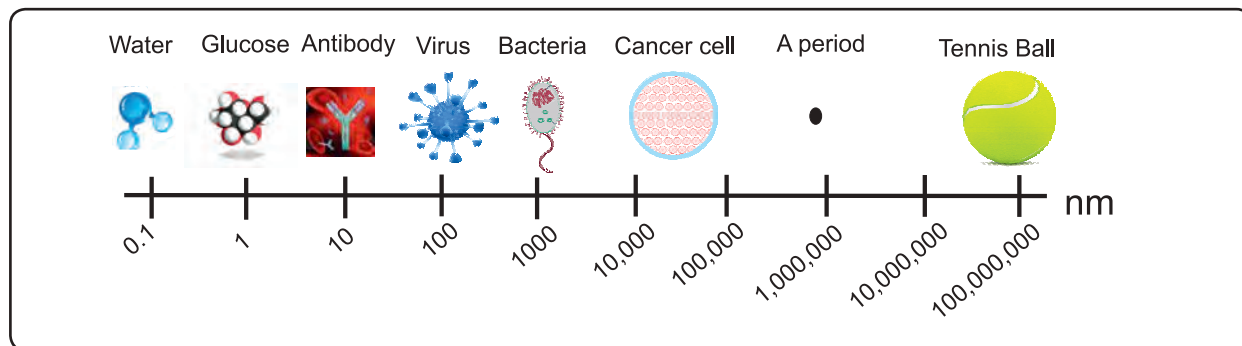
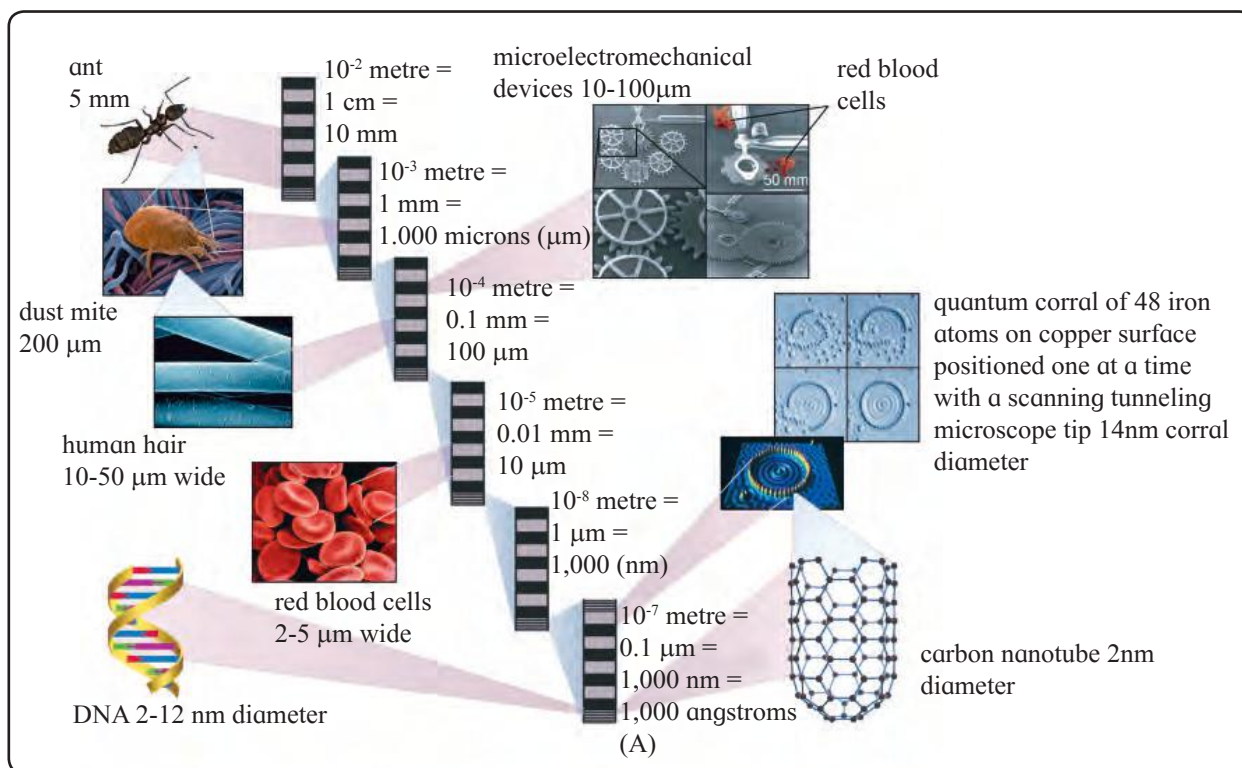

Fig. 16.1 Macro-materials to atoms
Fig. 16.2 Scale of nanomaterials
16.5 Introduction to nano chemistry : From clothes, sunglasses you wear to computer hard drives and even cleaning products, nanotechnology plays a big part in the manufacture of many materials. We have been using Lasers in DVD, CD players for a long time which contain nanosize components. Look at Fig. 16.1 which shows comparative scales from macro-materials to atoms.
Also observe another Fig. 16.2 which depicts the materials in nature, as well as devices that are man made. In both figures some objects like tennis ball (Fig. 16.1), ant, human hair (Fig. 16.2) we can see with our own eyes whereas bacteria, virus, red blood cell, we can not observe with naked eye. These are known as nanomaterials.